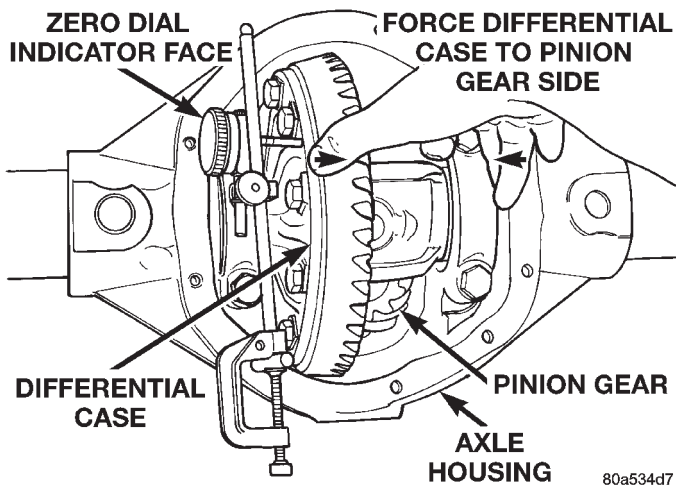

Fig. 68 Hold Differential Case and Zero Dial Indicator
(22) Zero dial indicator face to pointer (Fig. 68).